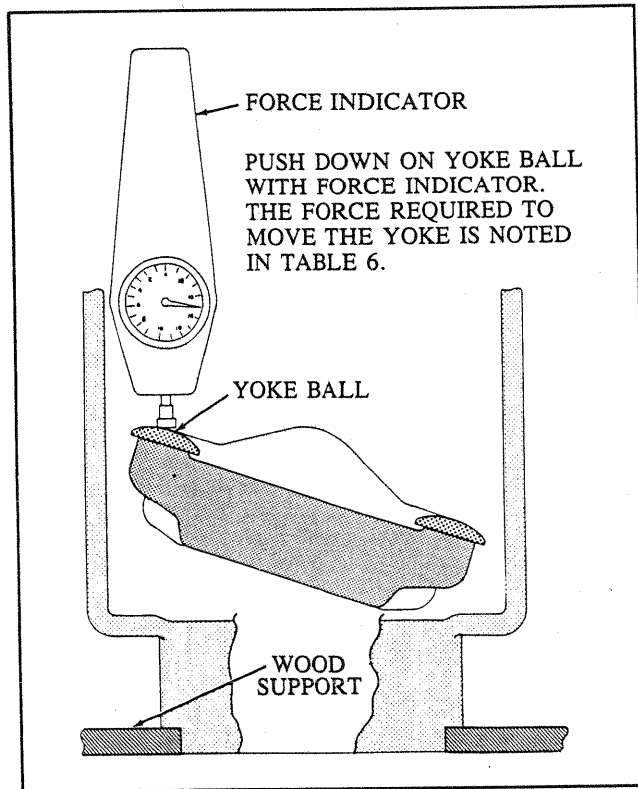

Figure 13. Force Measurement
f. Reposition the housing to assemble the other pintle parts. Install approximately .025/.027 shim (76) thickness on top of bearing race (77). Install spacer (75). Install "O" ring (74) into housing groove. Assemble pintle cover (73) onto housing with four screws (72). Tighten the screws to value noted in Table 5.
g. Place the housing mounting surface on a suitable workbench. See Figure 13.
i. Place a force indicator at highest yoke ball location. See Figure 13. Apply force to the yoke ball and observe the force required to start yoke movement. The force required to move the yoke is noted in Table 6. If the force is too high, the shim (76) thickness must be reduced. If the force is too low, the shim (76) thickness must increase. (NOTE: One pound of force equals approximately .001 shim thickness.)